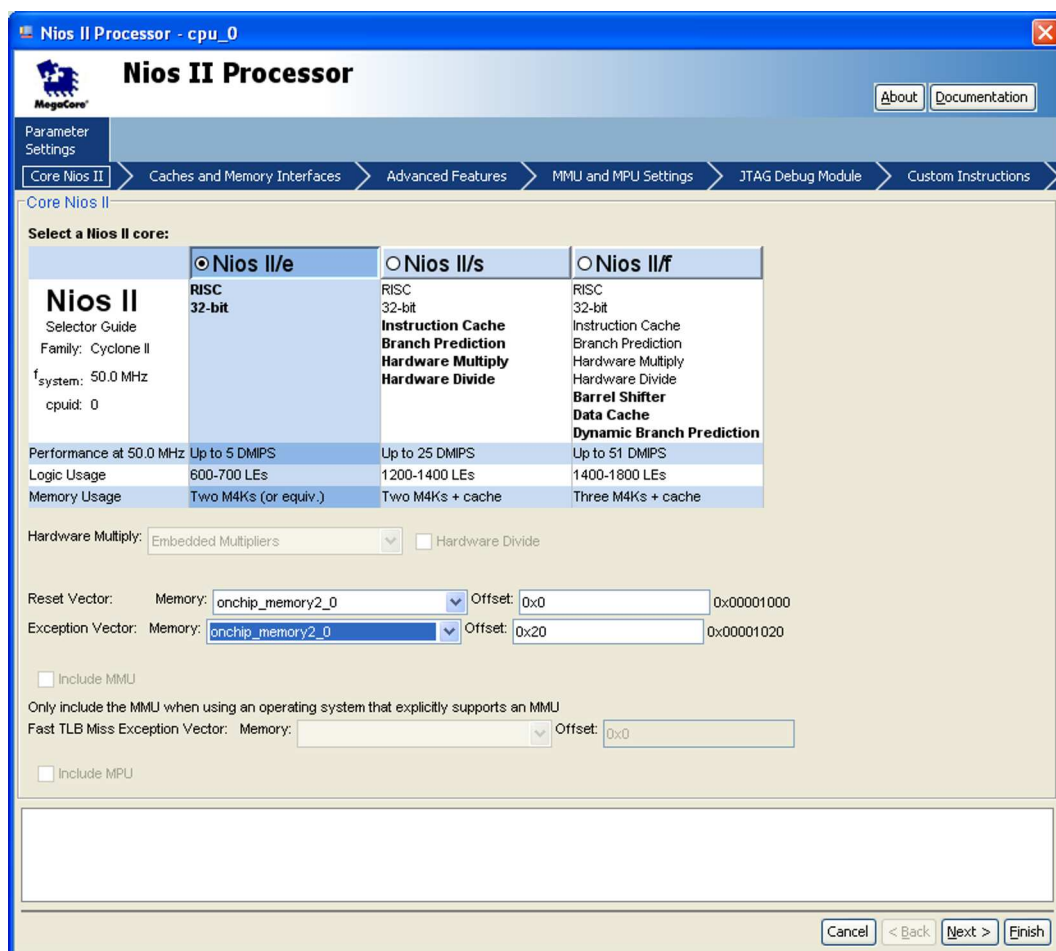

Figure 15. Define the reset vector and exception vector.
- Right-click on the cpu_0 and then select **Edit** to reach the window in Figure 15